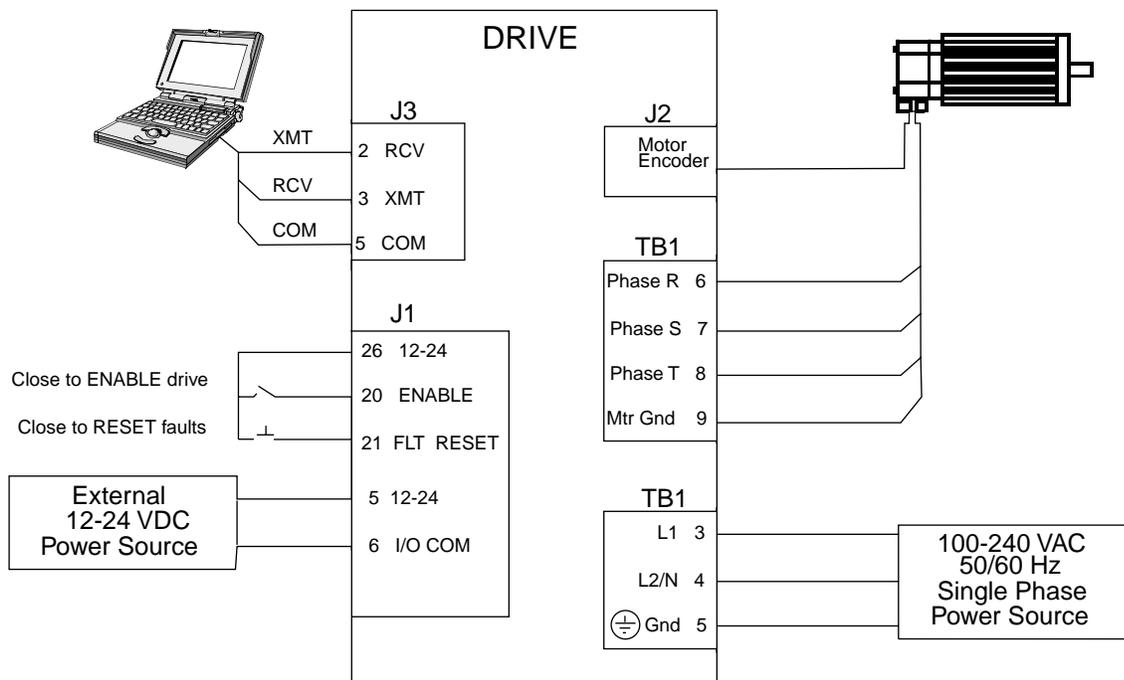

Figure 2.1 Host Mode Connection Diagram
Make the connections described below and shown in Figure 2.1.
3. Connect a jumper wire with a toggle switch between J1-20 (ENABLE) and J1-26 (12-24VDC). This cable provides manual control for enabling or disabling the SSD drive. Figure 2.1 shows the jumper, including its normally open toggle switch.